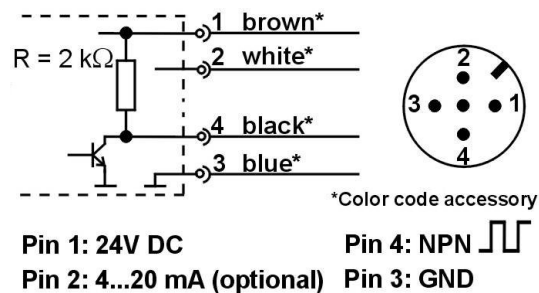

Fig. 6: Electrical connection
- ↪ Connect the connecting cables of the MAG-VIEW™ corresponding to Fig. 6.